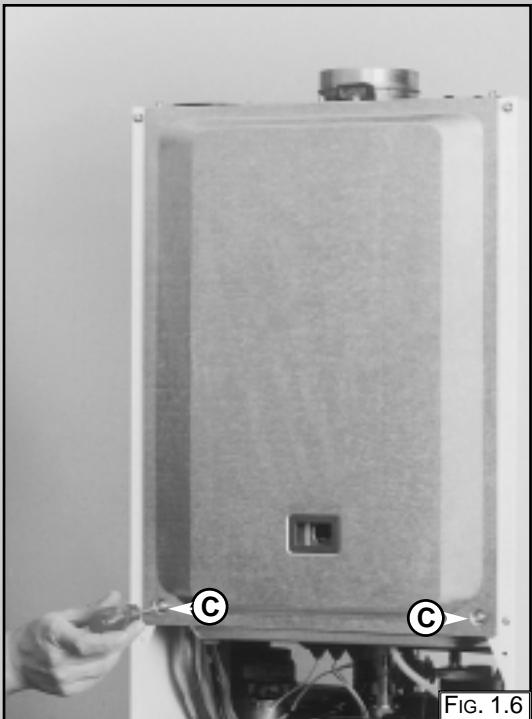

FIG. 1.6
1. Remove the screws "C" (FIG. 1.6);